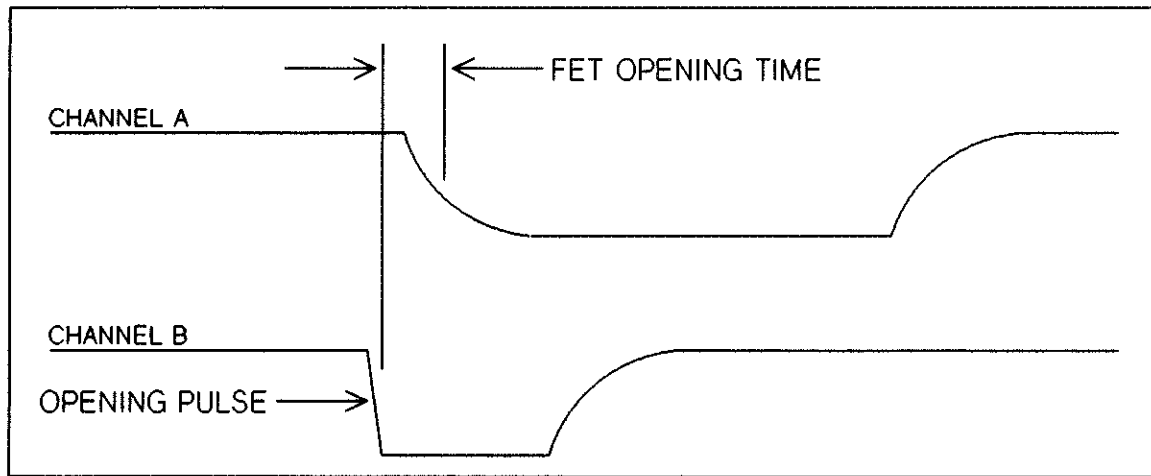

Figure 9-14 HP 44709A/44710A Opening Time
3. Rotate the DELAY SWEEP dial to the minimum position. Select the DELAYED sweep mode on the scope. Slowly rotate the DELAY SWEEP dial clockwise while observing the displayed waveforms. The Channel B waveform is the OPENING pulse. The Channel A waveform is the +5V supply as switched by the relays. As the DELAY SWEEP dial is rotated, each channel switch and the associated OPENING pulse will come into view. The FET opening time is the time from the falling edge of the OPENING pulse to the falling edge of the Channel A waveform. This time must be less than 1.2  $\mu$ seconds. The opening time is illustrated in Figure 9-14.